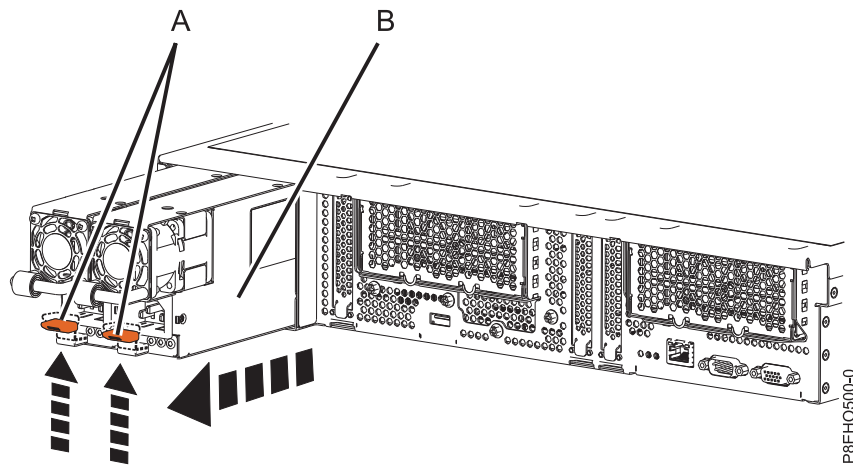

Figure 76. Removing a power supply from the system
- a. To unseat the power supply from its position in the system, pull up the terracotta locking-tab (A). See Figure 76 on page 108.
- b. Grasp the power supply handle with one hand, and pull the power supply (B) part of the way out of the system.